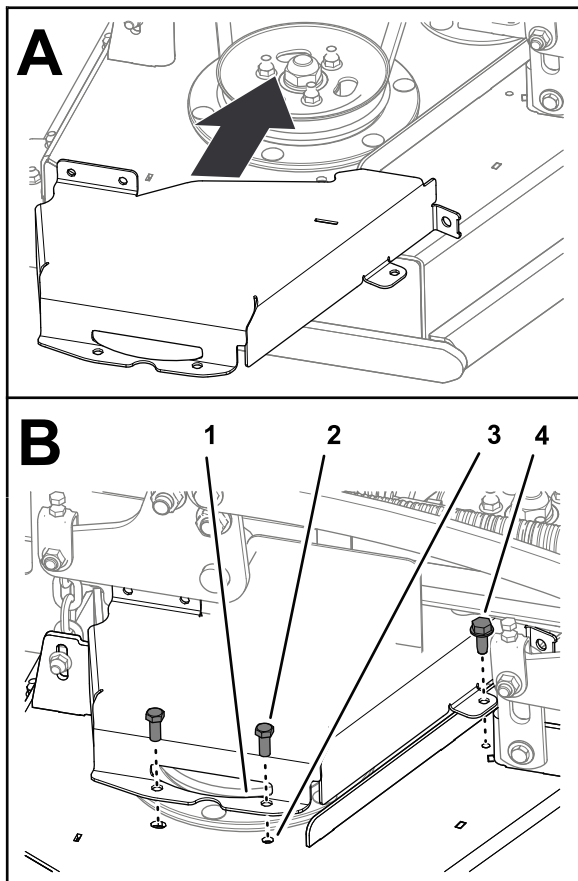

Figure 40
1. Assemble the right belt cover to the deck (Figure 40) with the 2 bolts that you removed in Removing the Left Belt Cover (page 26).